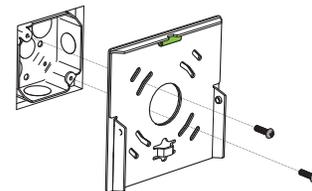

Figure 2
2. Install the quick mount plate on the junction box (hardware provided by others), using the bubble leveler to align it properly [Figure 2].